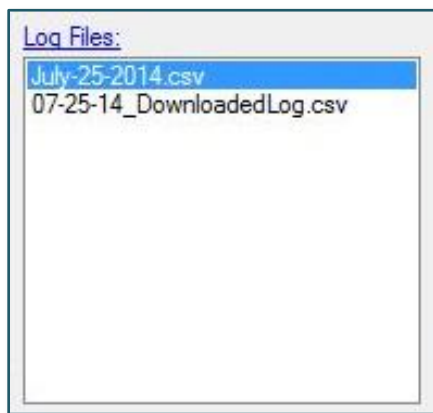

Figure 24: Log files
13. The file(s) will be stored in the **LOGS FILES** window as shown in **Figure 24**. You can use this window to browse through log files. This window allows you to: